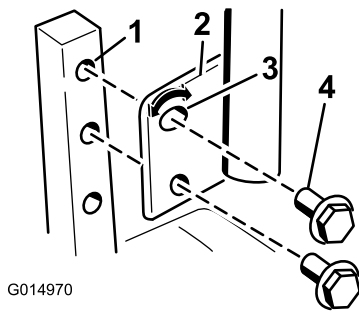

Figure 24
1. Remove the 2 bolts holding the control lever to the control arm shaft (Figure 24).
2. Move the control lever to the next set of holes. Secure the lever with the 2 bolts (Figure 24).
- Loosen the lower bolt just enough to pivot the control lever fore or aft (Figure 24). Tighten both bolts to secure the control in the new position.